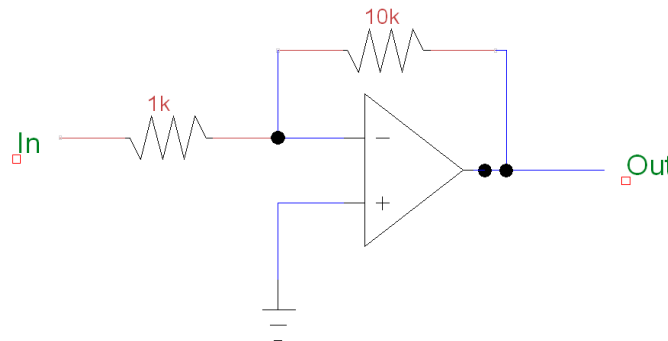

Figure 1. Inverting Amplifier
- [PL2] What is the expected voltage gain of Figure 1? Show the equations for this.
Construct the inverting amplifier shown in Figure 1. Drive the amplifier with a 1kHz sine wave.